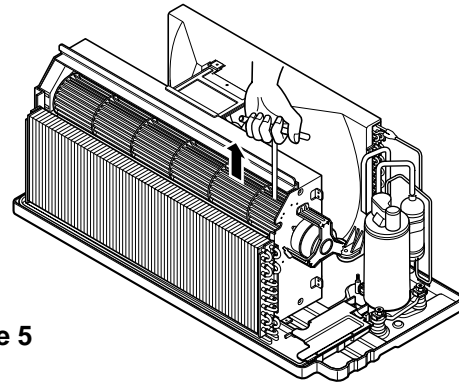

Figure 5
5. Loosen the hexagon screw with the Hex-wrench (See Fig.5)
6. Remove the 4 screws which fasten the indoor motor and the earth wire. (See Fig. 5. 6)